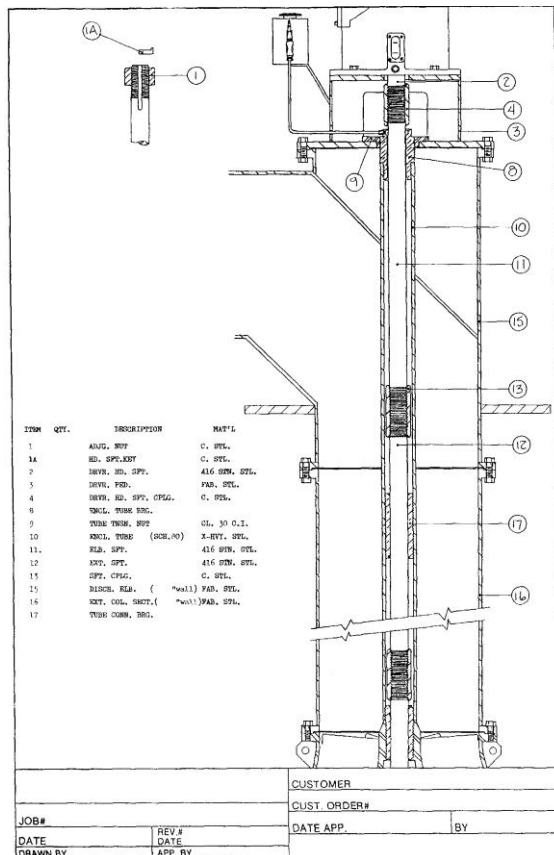

Figure 12: Oil Lubricated Design
Thread adjusting nut onto head shaft remembering shaft threads are left hand. See figure 12. See section 7 or section 8 for adjustment procedure that should be followed at this time.
(C) OIL LUBRICATED DESIGN (figure 12): A propeller, shown in figure 9, is designed to operate best approximately half way between its upper and lower limits of travel in the cylindrical section of the discharge or intermediate bowl.
(B) OIL LUBRICATED DESIGN (figure 12): The impeller (figure 13) is designed to operate close to the taper bowl seat in the intermediate bowl or suction bell (figure 14) for best performance.